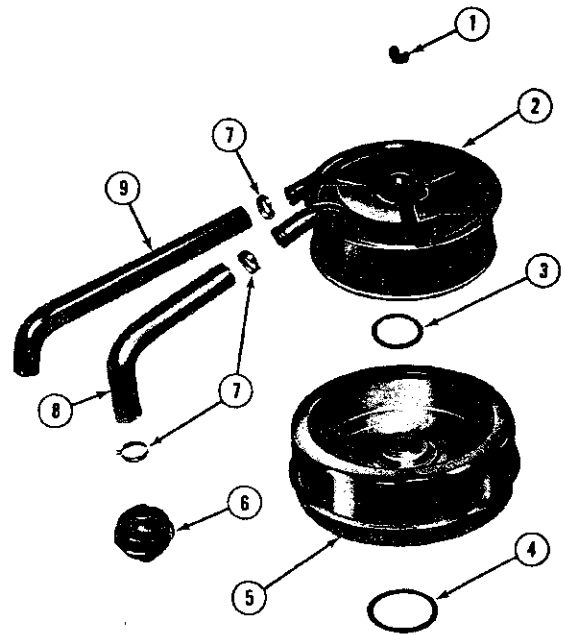

FIG. B-6—OIL BATH AIR CLEANER — DAUNTLESS V-6 ENGINE
b. To service the oil bath air cleaner on vehicle equipped with the Dauntless V-6 engine (Fig. B-6), first remove the air cleaner from the carburetor by unscrewing the wing nut. Remove the oil cup